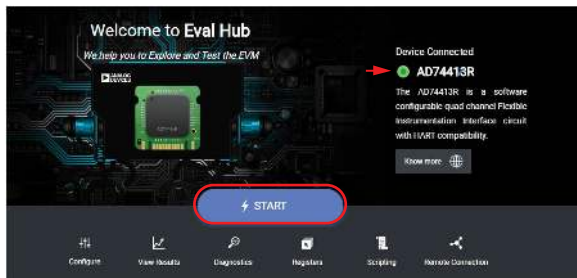

Figure 3. AD74413R Evaluation Software Start Page
5. The GUI displays a green indicator (indicated by the arrow in Figure 3) that confirms if the AD74413R is connected.
6. Click the START button to begin configuring the AD74413R (see Figure 3). The bottom of the GUI lists the tabs covered in the following sections.